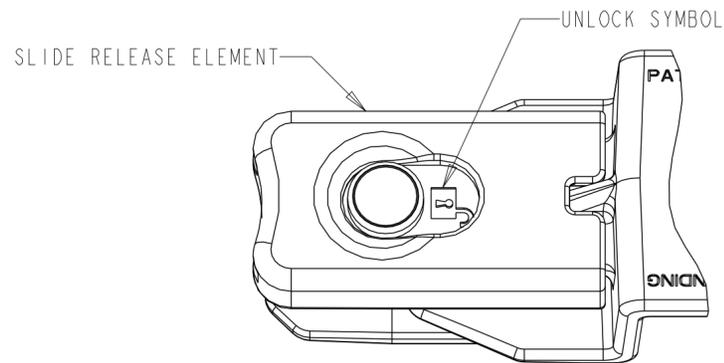
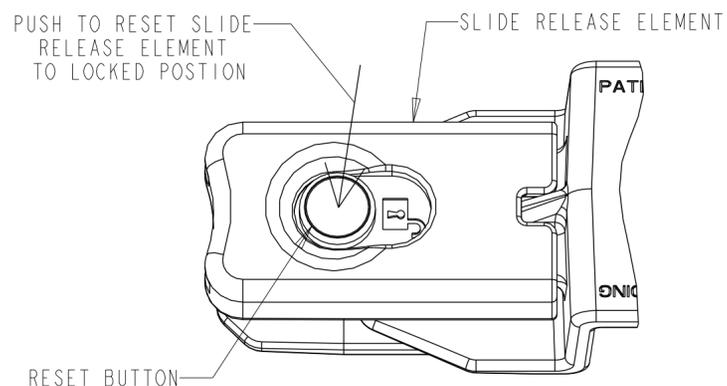
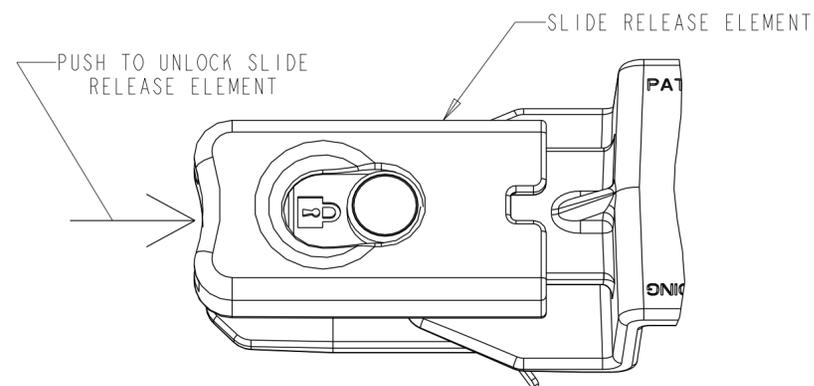

FIGURE 2
FIGURE 3
FIGURE 4
2. IF SLIDE RELEASE ELEMENTS ARE IN THE UNLOCKED POSITION (FIGURE 2) PUSH THE RESET BUTTON (FIGURE 3) TO RELEASE THE SLIDE RELEASE ELEMENTS TO THE LOCKED POSITION (FIGURE 1).
1. PUSH THE RESET BUTTON INWARD (FIGURE 4), ON THE COMPONENT SIDE YOU WANT TO RELEASE, UNTIL IT SNAPS INTO THE UNLOCKED POSITION (FIGURE 2).